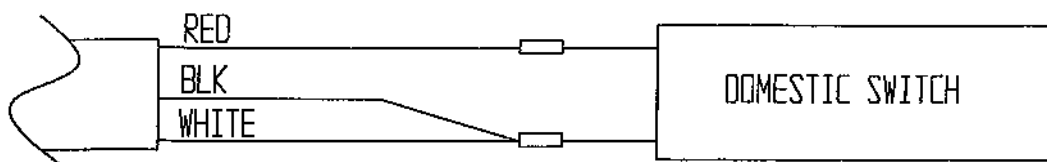

Figure 6
3. Cut off 3 Conductor Cable from switches. Butt connect the 3-Conductor Cable white and black wires together. Attach this assembly to the one of the switch black wires. Attach the other switch black wire to the 3-Conductor cable red wire. See Figure 6.